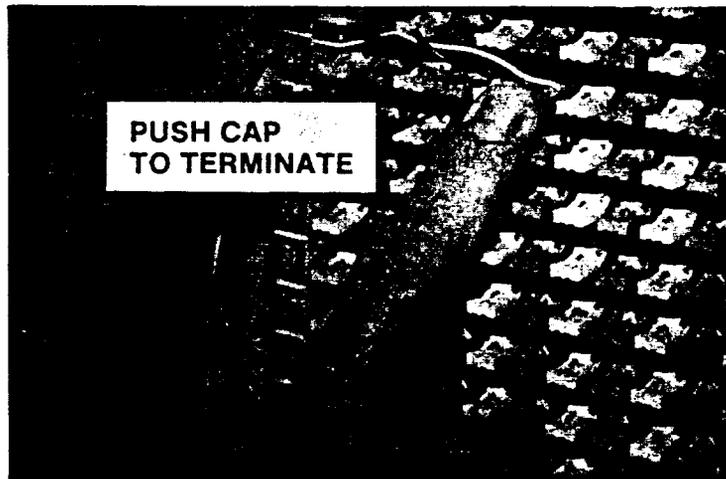

Figure 17. Terminating Cross-Connecting Wire on Distribution Field
- (1) Locate the feeder-in pair specified on the service order.
- (2) If the clips on the handset match the clips on the cabinet door, they may be attached directly to the 99-Type Terminal Block
- (3) If not, remove test cord from door and place it on the specified feeder pair.
- (4) Attach the clips from the handset to the binding posts on the door and verify feeder-in pair.
5.02 Terminate the cross-connecting wire on the distribution field as follows (Figure 17):